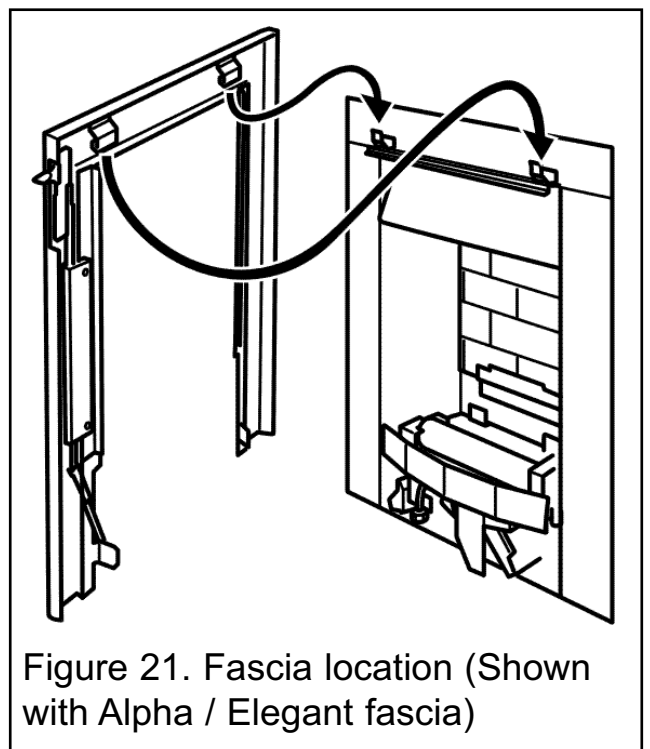

Figure 21. Fascia location (Shown with Alpha / Elegant fascia)
1. Slide the control button upwards as far as it will go. Make sure that the bottom of the linking bar is higher than the bottom of the fascia. Place the fascia against the fireplace front surface so that the two retaining plates at the back of the fascia are directly above the two upper retaining brackets at the top of the convection box. Lower the fascia making sure that the retaining plates locate fully over the brackets on the convection box (See figure 21).